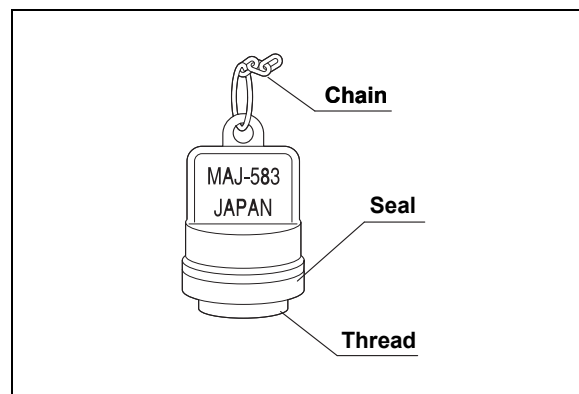

Figure 3.3
The water-resistant cap (MAJ-583) is attached to the zoom connector on the endoscope to protect the connector from water penetration during reprocessing. The water-resistant cap is connected to the endoscope by a chain (see Figure 3.3).
1. Confirm that the inside of the water-resistant cap is dry and free from debris (see Figure 3.3).